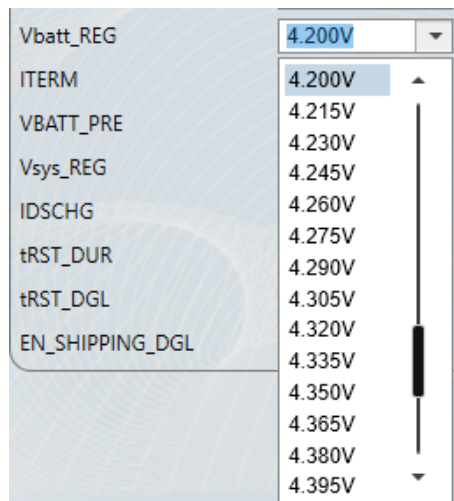

Figure 11: Battery Regulation Voltage Setting
7. Figure 11 shows the battery regulation voltage setting. Set the battery regulation voltage to 4.2V (the range is 3.6V to 4.545V).